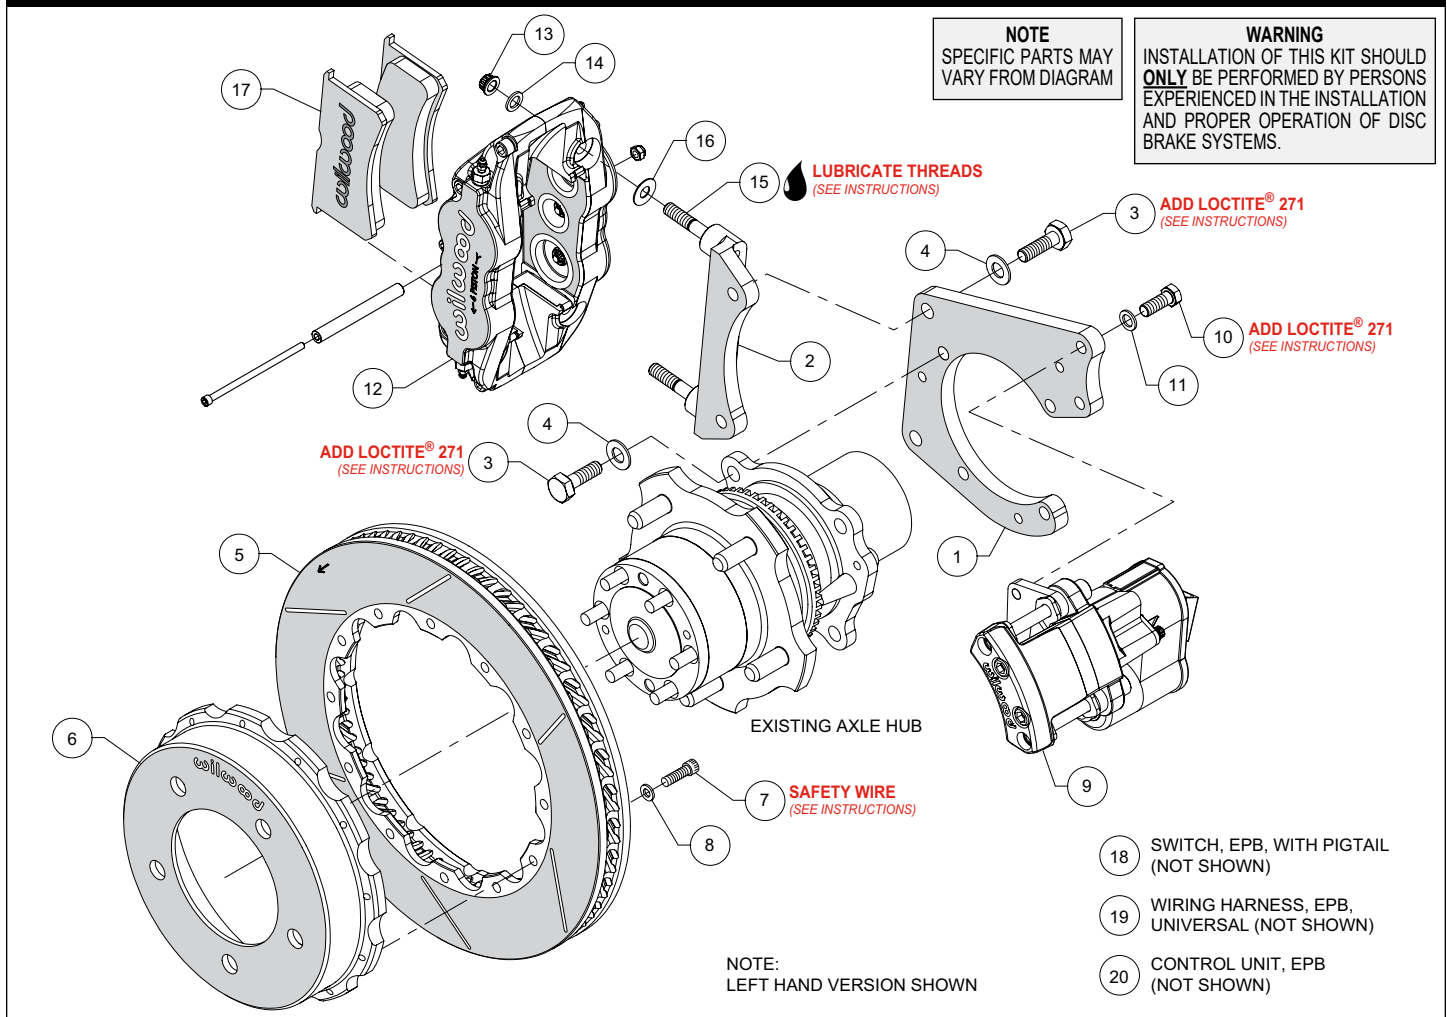
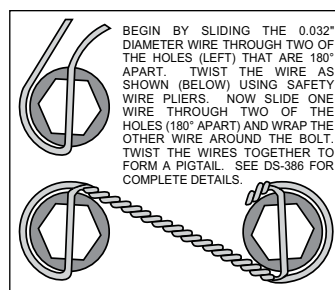

Figure 1. Typical Installation Configuration
Figure 3. Safety Wire Diagram
**NOTE:** Numbers in parenthesis refer to the parts list and Figure 1 on the preceding pages.
- The flat bracket (1) should initially be installed with clean, dry threads on the mounting bolts. Orient the bracket as shown in Figure 1, and Photo 1, and install using bolts (3) and washers (4). Temporarily tighten the mounting bolts. **NOTE: The bracket must fit squarely against the axle flange.** Inspect for interference from casting irregularities, machining ridges, burrs, etc. Remove the bracket mounting bolts one at a time, apply red *Loctite*® 271 to the threads, and torque to 60 ft-lbs.
- The caliper mount bracket (2) should initially be installed with clean, dry threads on the mounting bolts. Orient the bracket as shown in Figure 1 and Photo 2, and install using mount bolts (3) and washers (4). Temporarily tighten the mounting bolts. Inspect for interference from casting irregularities, etc. Remove the bracket mounting bolts one at a time, apply red *Loctite*® 271 to the threads, and torque to 60 ft-lbs.
- Orient the rotor (5) and the hat (6) as shown in Figure 1 and Photo 3. Attach rotor to hat using bolts (7) and washers (8). Apply red *Loctite*® 271 to the bolt threads and torque to 155 **in-lb** using a criss-cross pattern. Safety wire bolts using standard 0.032 inch diameter stainless steel safety wire as shown in Figure 3. Please refer to Wilwood's data sheet DS-386 (available at [www.wilwood.com/Pdf/DataSheets/ds386.pdf](http://www.wilwood.com/Pdf/DataSheets/ds386.pdf)) for complete safety wire installation instructions.
- NOTE:** This kit contains distinct right and left hand calipers that must be mounted in a specific direction, as described below. Lubricate the caliper mounting studs (15) with lightweight oil. Initially place one .035" thick shim (16) on each stud between the caliper and the bracket, as shown in Figure 1 and Photo 5. Mount the caliper (12) onto the bracket (2) using lock nuts (13) and washers (14), Figure 1. Temporarily tighten the lock nuts. Ensure that the caliper is mounted so the largest pistons are at the rotor exit end of the caliper, in relation to the direction of the rotor.
- Remove the caliper center bridge pad retainer bolt, nut, and tube from the caliper. Insert the brake pads (17) into the caliper, with the friction material facing the rotor, as shown in Photo 6. Check that the top of the brake pad is flush with the outside diameter of the rotor, Photo 7. If not, adjust by adding or subtracting shims (16) between the caliper and the bracket. After the caliper pad height is set, torque the caliper lock nuts (13) to 30 ft-lb. Secure the brake pads in place with the center bridge pad retainer tube, bolt, and locknut, Photo 8. The locknut should be snug without play in the bolt or tube. Be cautious not to over tighten.
- Mount the EPB caliper (9) onto the flat bracket (1) using bolts (10) and washers (11), as shown in Figure 1 and Photo 9. Apply red *Loctite*® 271 to bolt threads, and torque to 30 ft-lb.